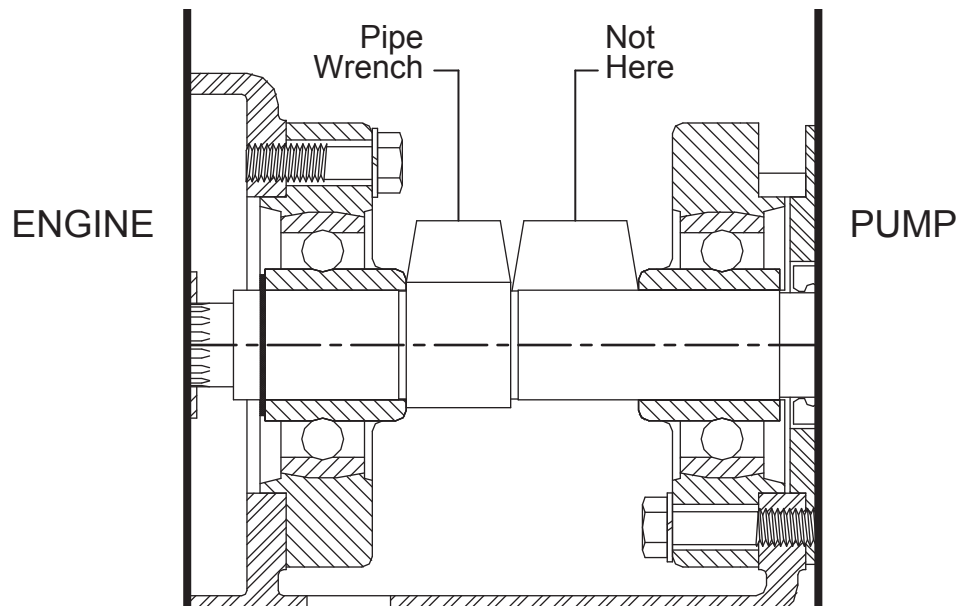

Figure 6 – Pump Impeller Removal
3. To remove pump impeller, take the pump impeller wrench, which is stored in the tool box, and position it so that the hole is aligned with any of the eight tapped holes in the front of the pump casing (4). The 90-degree leg of the pump impeller wrench should face inward, toward the pump impeller and be positioned between any two of the pump impeller fins. Bolt the wrench securely in place with one of the pump suction cover bolts (5B). Using a pipe wrench on the pump shaft (9), unscrew the pump impeller, turning the pump shaft in a clockwise direction. (See Figure 6 for pipe wrench placement). Be careful not to unscrew the pump impeller too far before removing the impeller wrench.